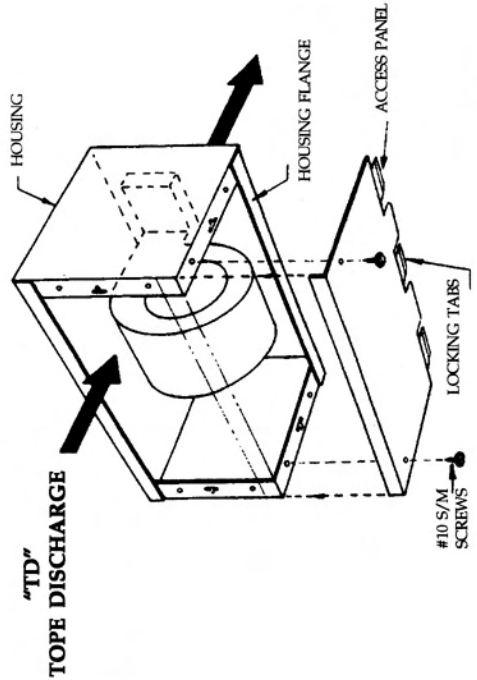

FIG. 2
- 2) REASSEMBLE THE ACCESS PANEL; ROTATE THE ACCESS PANEL 90 DEGREES AND REMOUNT IT TO THE HOUSING. SLIDE IN THE 3 LOCKING TABS TO THE HOUSING FLANGE AND REINSTALL THE TWO #10 SCREWS. SEE FIG. 2.